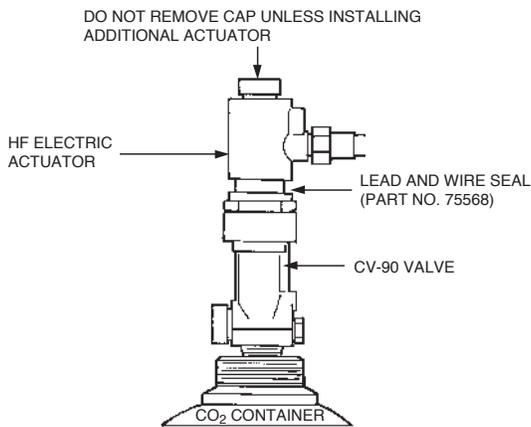

FIGURE 8-14
6. Thread the HF electric actuator onto top threads of container valve or booster actuator as appropriate. Do not exceed 10 ft lb torque. See Figure 8-14.